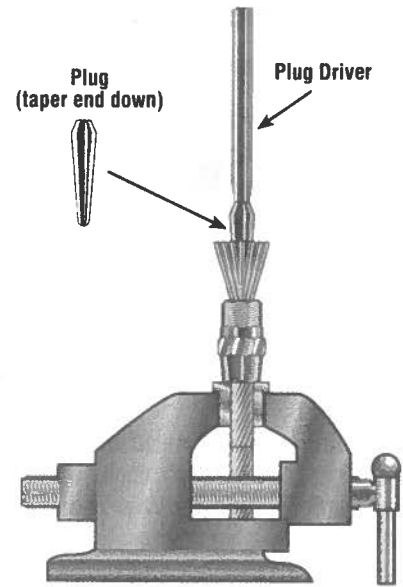

Figure 3
STEP 4: Install the Plug. (Figure 3) Go to A, B or C depending on the plug type and follow the instructions below.